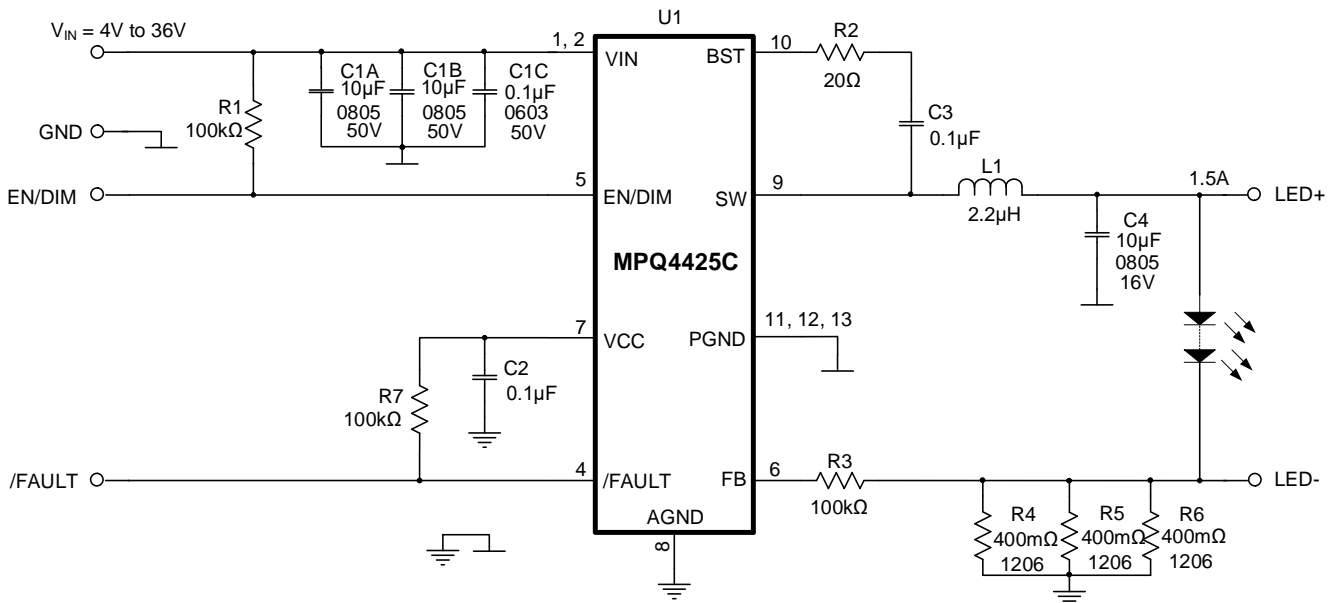

Figure 9: Typical Application Circuit ($I_{LED} = 1.5A$)
- 12) The recommended PCB layout is based on Figure 9 on page 26.